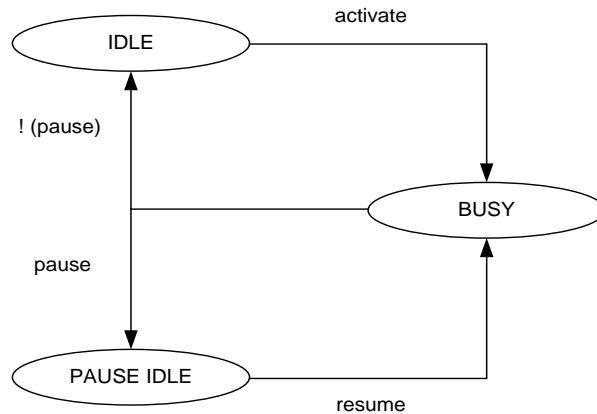

Figure 3-133 SPI Pause Mode State Transition
Unlimited length for transmission using the dedicated pause mode	Achieved by the pause mode operation. In this mode, the CS_N signal is always active (in other modes, normally low) after the transmission. At this time, the SPI controller is in the PAUSE_IDLE state and ready to receive the resume command. Refer to Figure 3-133 for the state transition.
2. Set the timing and protocol for the SPI transmission (see Figure 3-133 for detailed setup parameters).